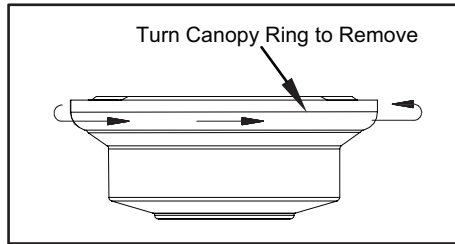

Figure 5
1. Remove the canopy from the canopy by turning the ring until it unlocks. (Figure 5)